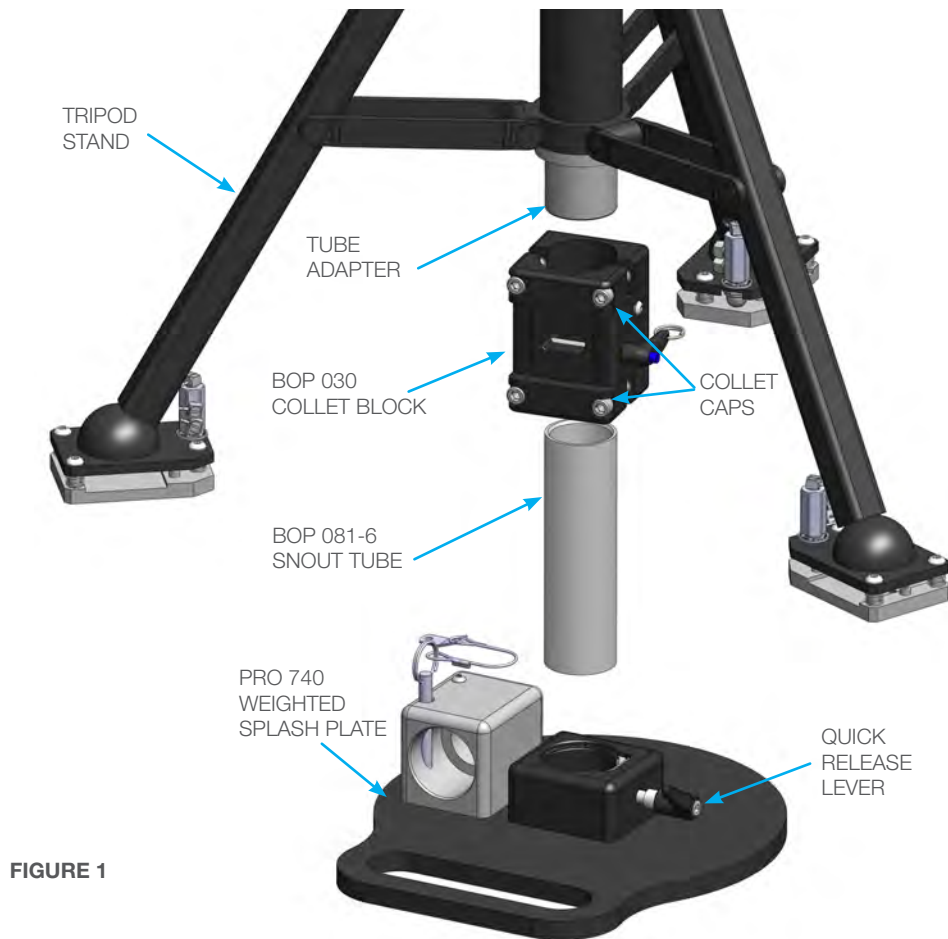

FIGURE 1
1. Attach the BOP 030 Collet Block to the Tripod Stand. Loosen two screws on one Collet Cap with a 1/4" Allen wrench. Slide the BOP 030 Collet Block onto the Tube Adapter located on the bottom end of the Tripod Stand. Tighten the two screws on the Collet Cap until secure. The BOP 030 Collet Block Assembly can stay attached to Tripod Stand when not in use. **(Figure 1)**
2. Attach the BOP 081-6 Snout Tube to BOP 030 Collet Block. Loosen two screws on the other Collet Cap with a 1/4" Allen wrench. Slide the Snout Tube into the Collet Block and tighten the two screws until secure. **(Figure 1)**
3. Attach the PRO 740 Weighted Splash Plate to the BOP 081-6 Snout Tube. Loosen two screws on the other Collet Cap with a 1/4" Allen wrench. Slide the Weighted Splash Plate onto Snout Tube and tighten the Quick Release Lever until secure. **(Figure 1)**